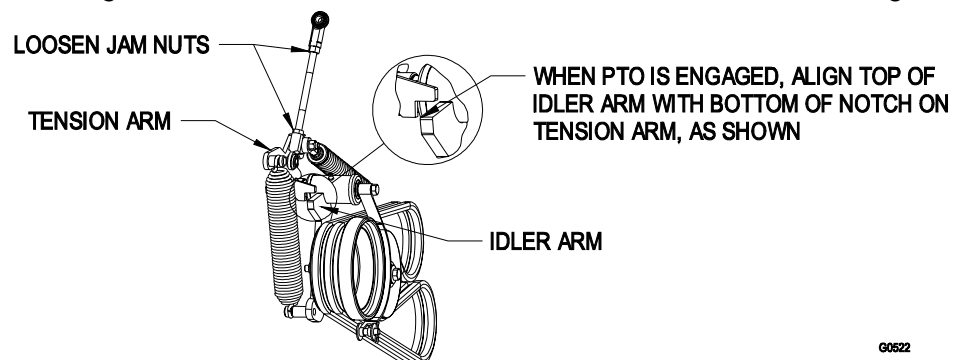

FIGURE 6
- l) Loosen the jam nuts and adjust linkage until the top of the idler arm is aligned with the bottom of notch on tension arm as shown in Figure 6.